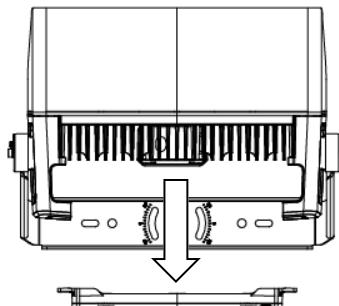

Fig. 17
3. Remove the driver box from the main housing (Fig. 17).